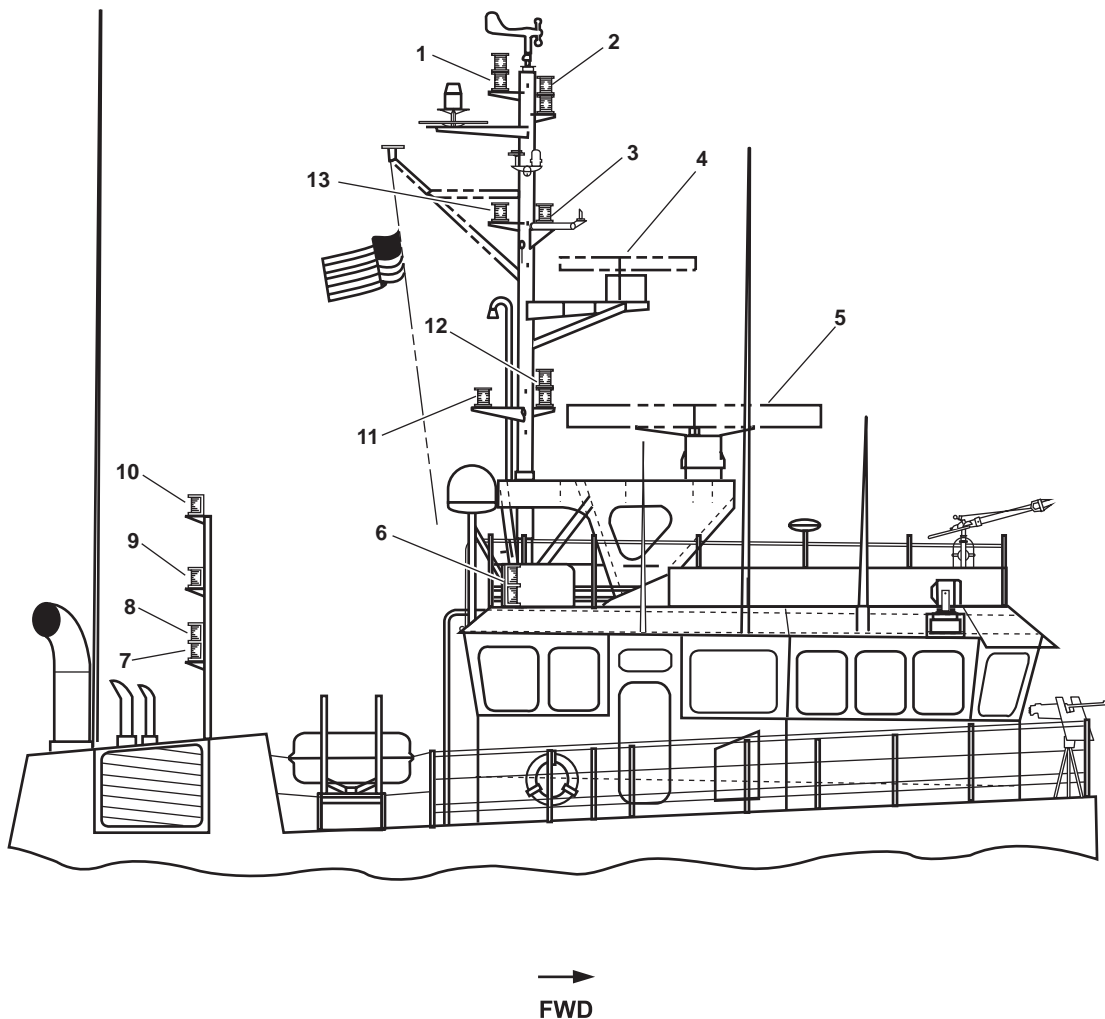

Figure 3. Navigation Lights, And Radars: Starboard View
1. Restricted in ability to maneuver and not under command (top light red) and anchor (bottom light white) lights (figure 3, item 1). The top light illuminates when the vessel has restricted maneuverability. The bottom light illuminates when the vessel's anchor is lowered. Both lights are visible for 360°.
2. Towing (white top light) and steaming (white bottom light) lights (figure 3, item 2). This light illuminates when the vessel is towing and/or steaming. The towing and steaming light provides a 225° arc of white light.
3. Towing and restricted in ability to maneuver white light (figure 3, item 3). This light illuminates when the vessel is towing and/or the vessel has restricted maneuverability. The towing and restricted in ability to maneuver light provides a 225° arc of yellow light.
4. X-Band radar Raytheon M28342 (figure 3, item 4). This radar provides transmission and reception of X-Band radar waves. The X-Band radar communicates imagery to the X-Band modulator XMTR receiver. The X-Band radar is used for prevention of collisions between vessels and as an aid to navigation when close to shore.
5. S-band radar Raytheon M28346 (figure 3, item 5). This radar provides transmission and reception of S-Band radar waves. The S-Band radar communicates imagery to the S-Band modulator XMTR receiver. The S-Band radar assures target detection in adverse weather where X-Band radars are heavily affected by sea or rain clutter.
6. Side lights (figure 3, item 6). The side lights provide a 112.5° arc of light. The port side lights are red and the starboard side lights are green.
7. Stern light (figure 3, item 7). The stern light provides a 135° arc of white light visible from astern the vessel.
8. Towing stern light (figure 3, item 8). The towing stern light provides a 135° arc of yellow light visible from astern the vessel.
9. Inland side tow light (figure 3, item 9). The inland side tow light provides a 135° arc of yellow light visible from astern the vessel.
10. Towing/pushing light (figure 3, item 10). The towing/pushing light provides a 135° arc of yellow light visible from astern the vessel.
11. Restricted in ability to maneuver and not under command red light (figure 3, item 11). This light illuminates when the vessel has restricted maneuverability and is visible for 360°.
12. Towing (top white) and restricted in ability to maneuver and not under command (bottom red) lights (figure 3, item 12). The top white light is illuminated during towing operations, and is visible for 225°. The bottom red light is illuminated during restricted maneuverability and is visible for 360°.
13. Restricted in ability to maneuver white light (figure 3, item 13). This light illuminates when the vessel has restricted maneuverability and is visible for 360°.